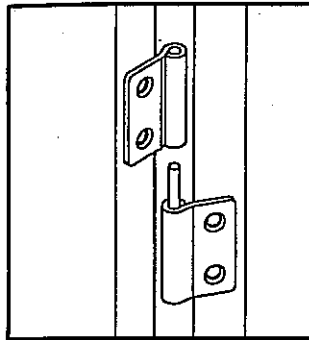

Figure 4
Attach Doors (M) and (N) to the side panels, by sliding the door lift hinges into the side panel lift hinges. (see Figure 4)